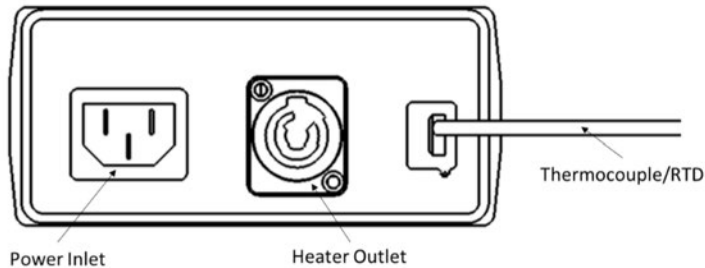

Figure 1
3. Connect the input power supply cord to the controller's input power receptacle (see Figure 1).
8. Connect the heater's power cord to the temperature controller's heater power receptacle (see Figure 1). For 240V models with heater power connector, see heater power connector installation procedure on Page 8.